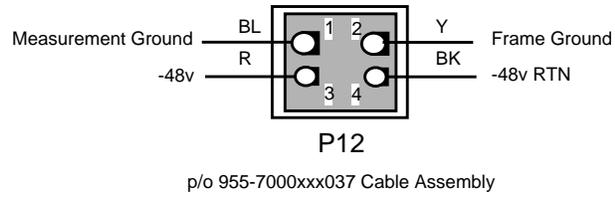

Figure 1-2. **Test Head Power Wiring P12**
- Step 2:* Connect the leads in accordance with the associated figures for the P12 connector of the 955-7000xxx037 cable (See Figure 1-2) at the battery supply or an assigned fuse position for the test head.